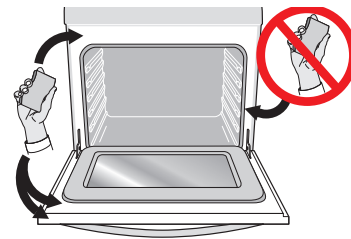

Figure 7: Areas to clean or avoid on door frame
- Clean any soil from the door frame, the oven frame around the oven door gasket and the small area at the front center of the oven bottom. These areas heat sufficiently to burn soil on. Clean with soap and water. These areas are shown in white (Figure 7).
- Do not clean the oven door gasket (Figure 7). The woven material of the oven door gasket is essential for a good seal. Care should be taken not to rub, damage or remove the gasket.